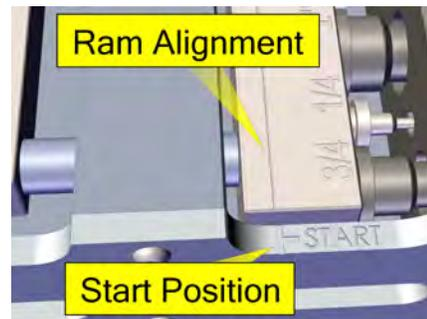

Fig. 4. Ram to Start Position
2. Activate the Ram Arm forward to the “START” position marked on the frame. In addition to the visual indication of the line reaching the start position, the Ram Arm will snap to the proper alignment. See Fig. 4.